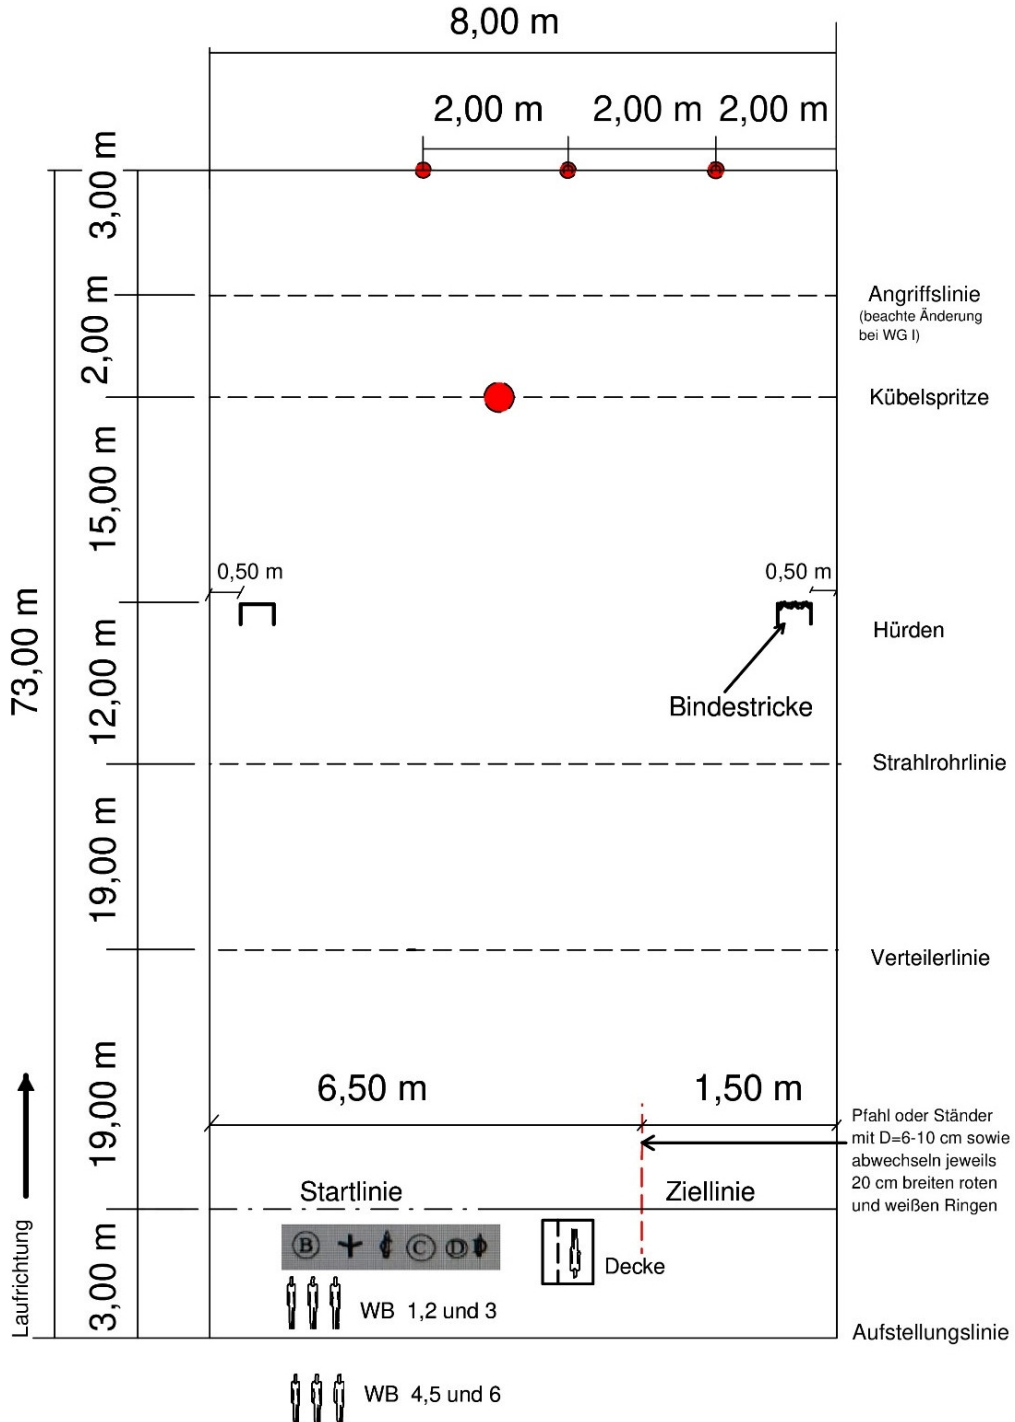

Figure 1: Structure of the competition track
### (2) Dimensions of the competition track and installation of the competition facilities and equipment (see also Fig. 1)